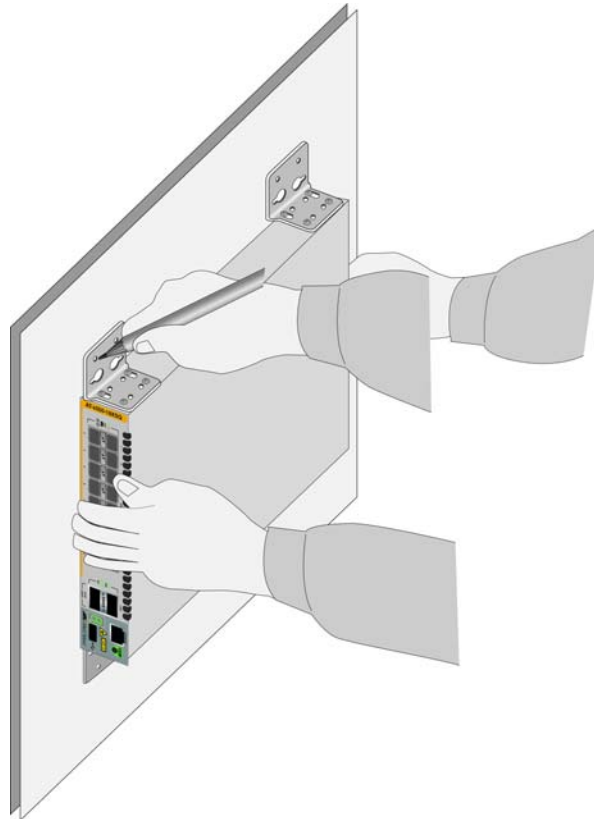

Figure 38. Marking the Locations of the Bracket Holes on a Concrete Wall
3. Have another people hold the switch on the concrete wall at the selected location for the device while you use a pencil or pen to mark the wall with the locations of the four screw holes in the four brackets (one screw per bracket). Refer to Figure 38 on page 82.